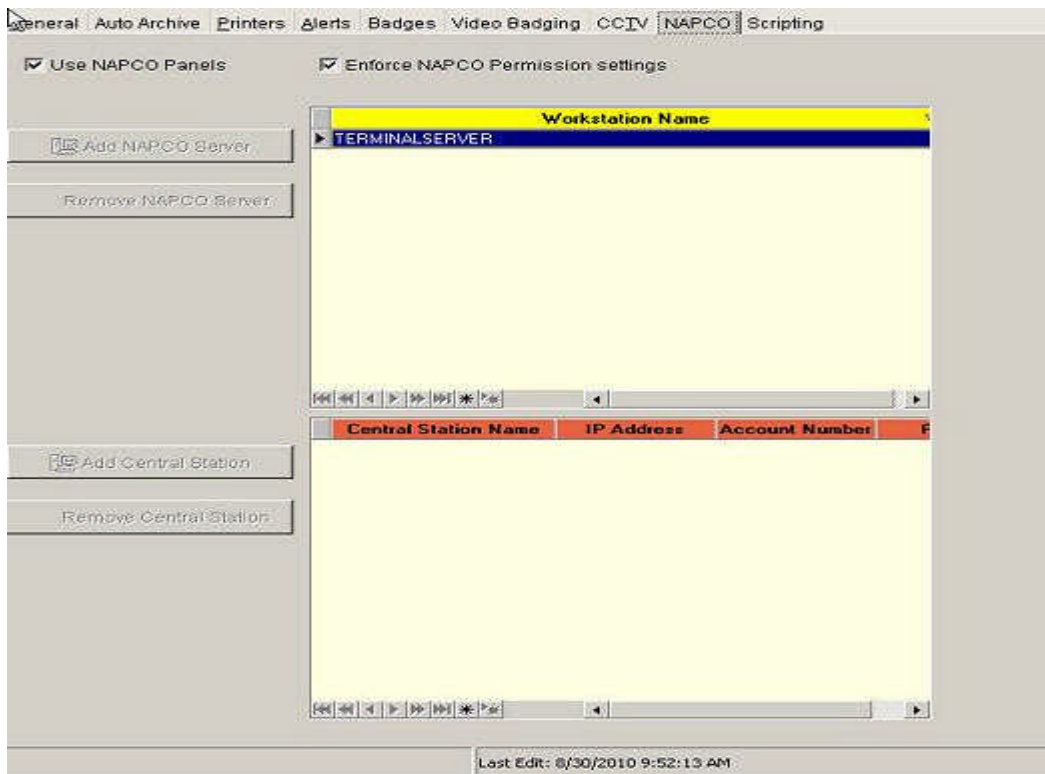

Figure 1.
1) Configure the Napco Panels screen as follows. Refer to figure 1.
- Select the **Napco Server name** for **Workstation**. This is the workstation name in figure 1